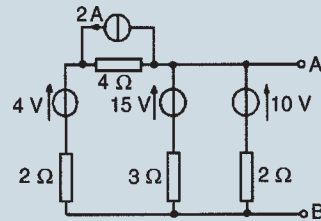

Figure 15.79
- Determine, by successive conversions between Thévenin and Norton equivalent networks, a Thévenin equivalent circuit for terminals AB of Fig. 15.79. Hence determine the current flowing in a 6Ω resistor connected between A and B .